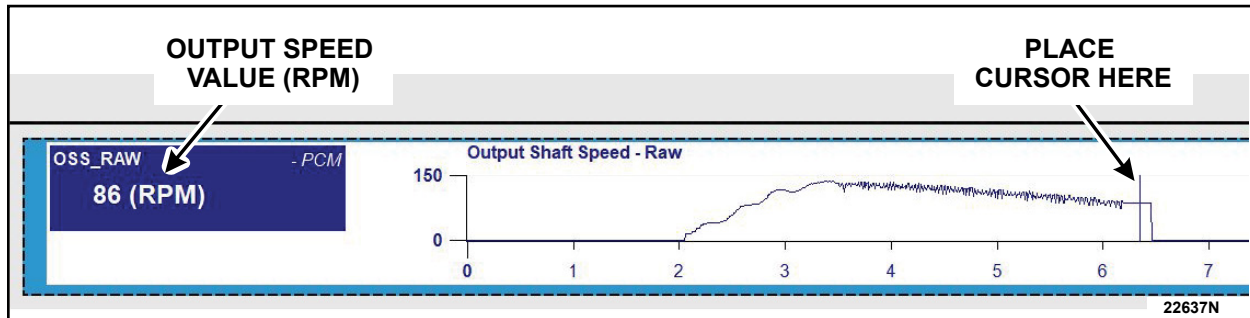

FIGURE 9
28. Place the cursor over the last non-zero value of the output speed chart and left mouse click on it. The RPM value should now be displayed to the left of the graph. See Figure 9.